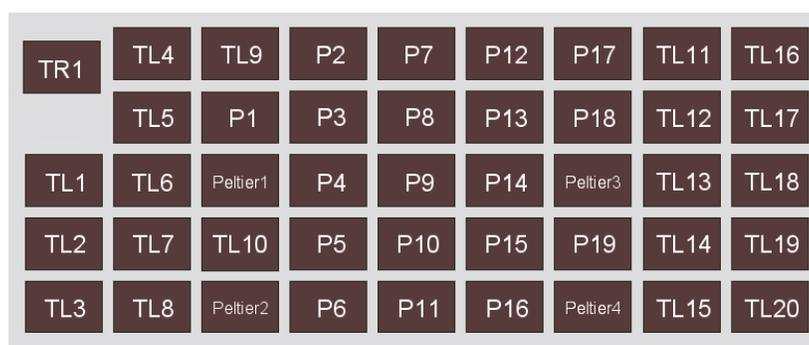

Figure 22 Deck positions on the Biomek™ i7 Automated Workstation
- Figure 22—Deck positions on the Biomek™ i7 Automated Workstation.